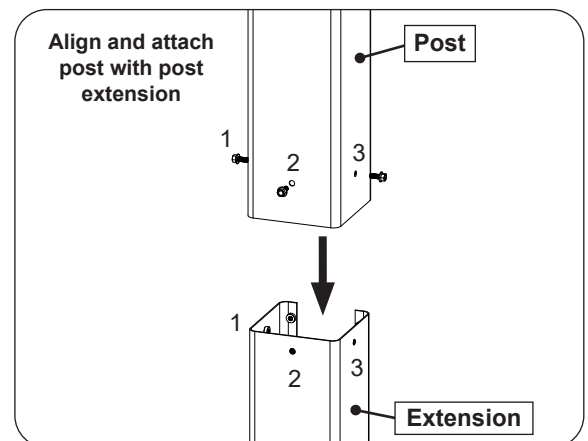

Fig. 5-3 Install post to extension
5. Align the three holes on the front of the post to the three weld nut holes on the front of the post extension so that the open portion faces the same direction as the access plate opening. See Fig. 5-3.
6. From outside the joined post and post extension, insert one of the $\frac{1}{4}$ X 20"-1/2" bolts (supplied) into each of the three (3) bolt holes and tighten each bolt using a $\frac{7}{16}$ " socket driver or wrench (see Fig. 5-3).